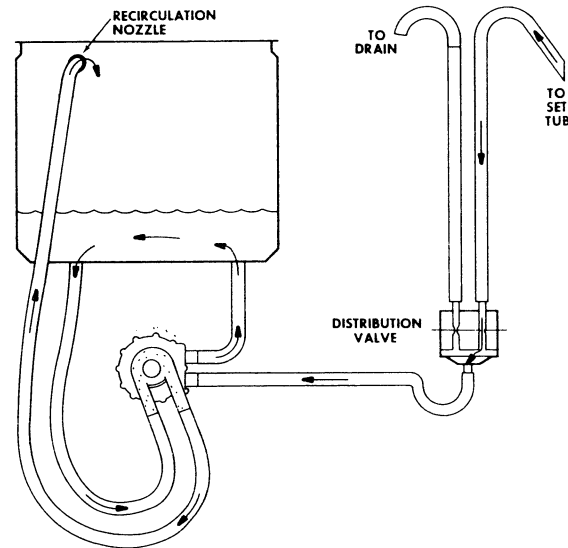

**Figure 12 — Water Flow During SAVE**
**SAVE:** With the customer control switch set on Save (3-A, D-2 closed) and Timer Switches 16L-17L and 19L-20L closed at the beginning of WASH SPIN, the distribution valve solenoid is energized. The drain side of the valve is closed and the Save-Return side is open. The pump drives the used wash water into the single bottom port of the valve, out the top save port, and into the set tub, see Figure 12.